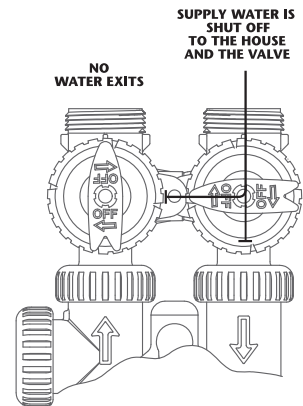

FIGURE 4
4. **SHUT OFF POSITION:** The inlet handle points to the center of the bypass valve and the outlet handle points away from the control valve. The water is shut off to the building. The water treatment system will depressurize upon opening a tap in the building. A negative pressure in the building combined with the softener being in regeneration could cause a siphoning of brine into the building. If water is available on the outlet side of the softener, it is an indication of water bypassing the system (**Fig. 4**) (i.e. a plumbing cross-connection somewhere in the building).